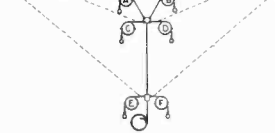

Figure 2—Antenna Lead Out Before Installation
- (1) A complete antenna network assembled with transformer, insulator, link, and connections as shown in Figure 2.
- (2) Two specially designed hangers for attachment and proper spacing of antenna wires.
- (3) Seven special attachment links for attaching antenna and suspension wires to hangers.
- (4) Antenna Receiver Coupling Transformer having two terminals for attachment of transmission line and two terminals with links for attachment to receiver.
- (6) **Suspension.**—Attach one end of the suspension or strain wire or rope to the support and the other end to the mid-loop of one of the hangers, and secure in place on mast or other support.
- (7) Estimate and check length of other suspension line (if metal), should be throughout in lengths not greater than 16 feet separated by insulators, and then attach one end to second hanger and string antenna in place to second support with rope and pulley or other convenient means. Allow slack as suggested under "Location."
- (8) **Transmission Line.**—Attach transmission line to wall or other exterior surface with nail-on knobs or other insulating device, in such a manner as to avoid future damage to the insulation or to the line from effects of swaying, wind and weather. There should be a slight tension in the transmission line to prevent antenna from severe swaying in the wind. Secure lead-in porcelain tube insulator in place through wall, thread transmission line through tube and carry to receiver. Any surplus length of transmission line may be wound into a coil and secured with tape or strap. The transmission line may be attached to interior walls with insulated staples.
- (1) Lay out antenna, as shown in Figure 2, on flat surface in convenient proximity to supports.
- (2) Remove shipping tape and carefully unwind coils A and B (Figure 2), keeping wire straight and free from twists. Make connection with special link, to top insulator of each hanger, as each wire is unrolled. Make connection with special link, at center, with loop out coil A to insulator on coil B.
- (3) Unwind coils C and D (Figure 2), keeping wire straight and free from twists. Make connection with special link to center loop of each hanger as each wire is unrolled.
- (4) Unwind coils E and F (Figure 2), keeping wire straight and free from twists. Make connection with special link to bottom insulator of each hanger as each wire is unrolled.
- (5) Check the approximate length of transmission line required, and, if necessary, splice an additional length of same type of cable. This is obtainable from your dealer in lengths of 45 feet. These lengths should not be cut, but any excess should be coiled, taped and secured in a convenient place. If an auxiliary ultra short-wave antenna is being used it should now be connected in place on the main network as described in paragraph 13.